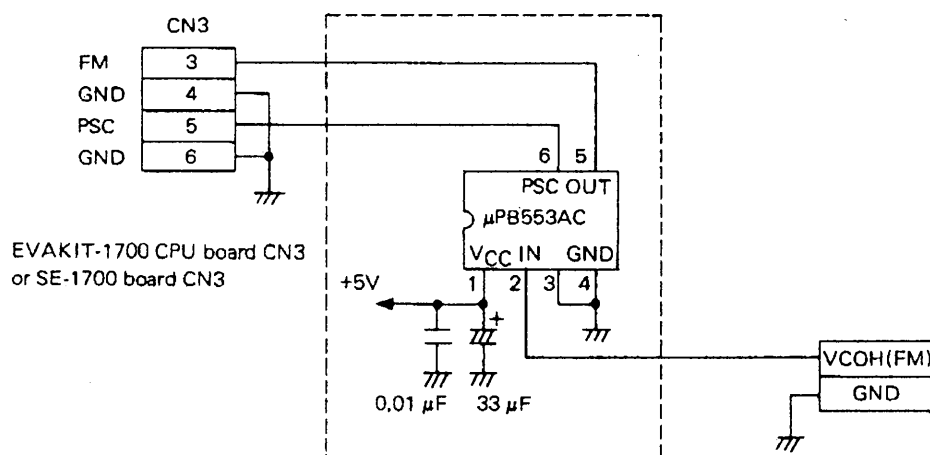

Fig. 4-2 External Prescaler Circuit
The μ PB553AC prescaler must be connected externally to emulate the μ PD1716 VCOH (FM) input pin. Although the EVAKIT-1700 and SE-1700 boards are equipped with a pin (FM150M) for built-in prescaler devices, this pin cannot be used with μ PD1716. Therefore, an external prescaler circuit like that shown in Figure 4-2 must be prepared.